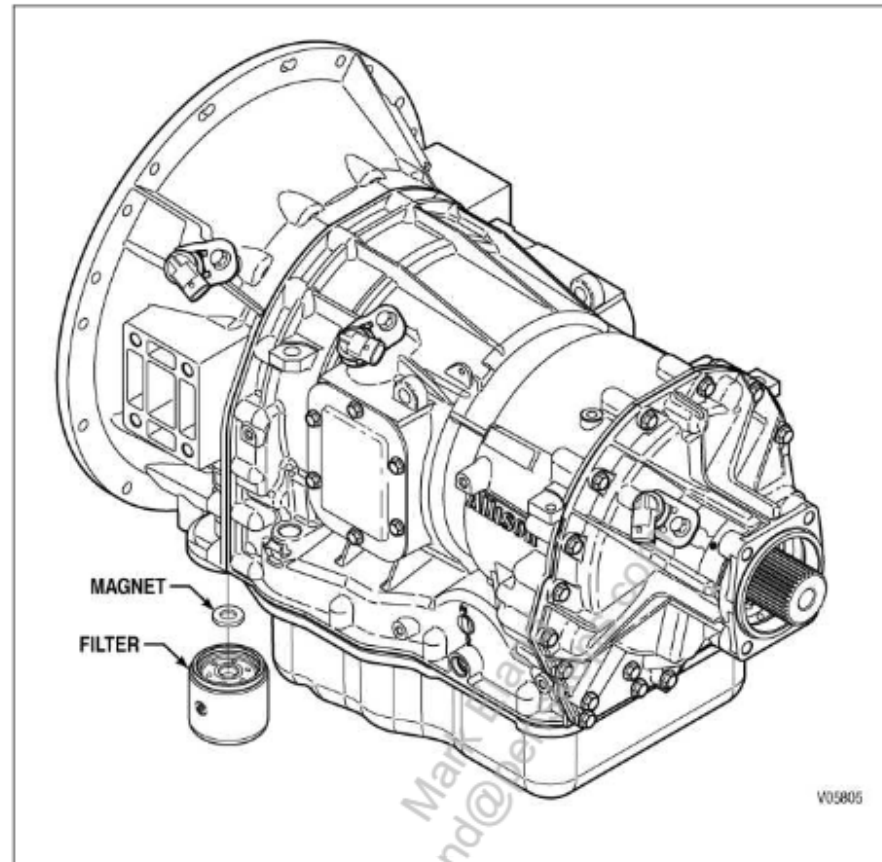

Figure 2-4. Replacing Control Main Filter
2.9.2 Replace Control Main Filter. Refer to Figure 2-4 during the following procedure.